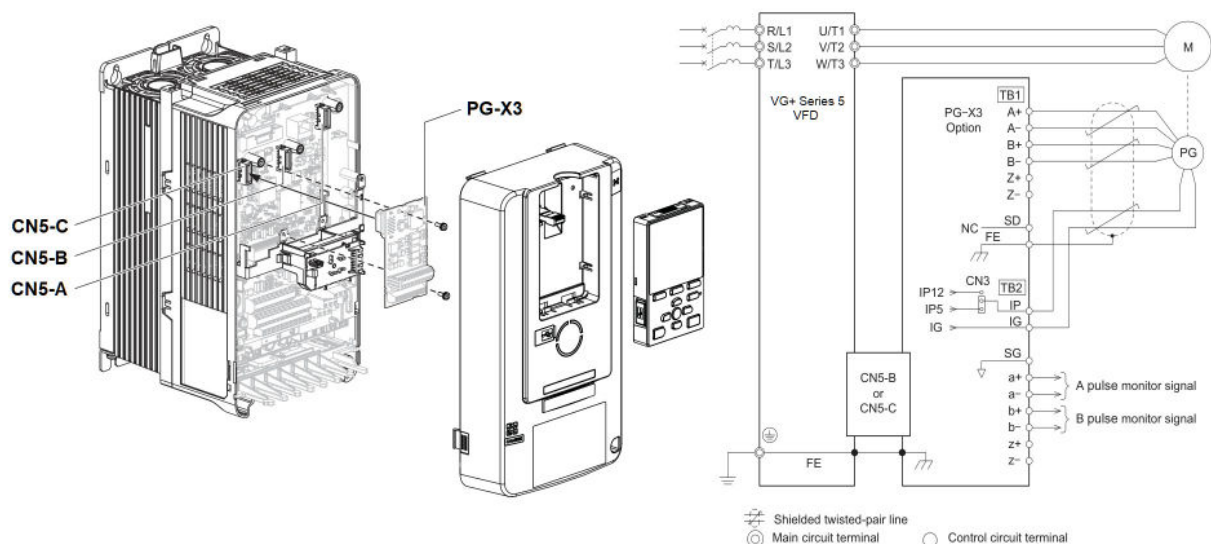

Figure 3-31: PG-X3 Encoder Card Wiring
2. Connect the encoder to the PG-X3 Encoder Option Card. **See Figure 3-31 on page 84.**